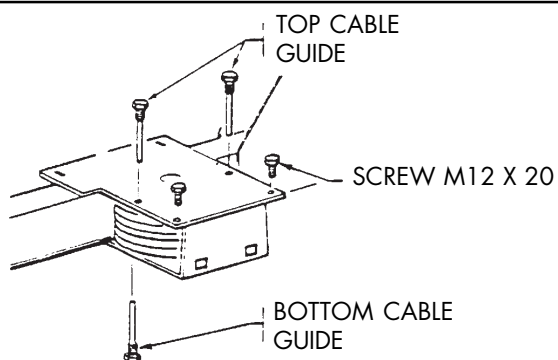

Fig. 5
- Fixed track: Place the fixed track on the cross-member horizontal gussets, with its wheel guide flange facing inwards. Locate the connecting screws (Fig. 5) but do not tighten them. Pay attention to the position of the wire rope guide screws.